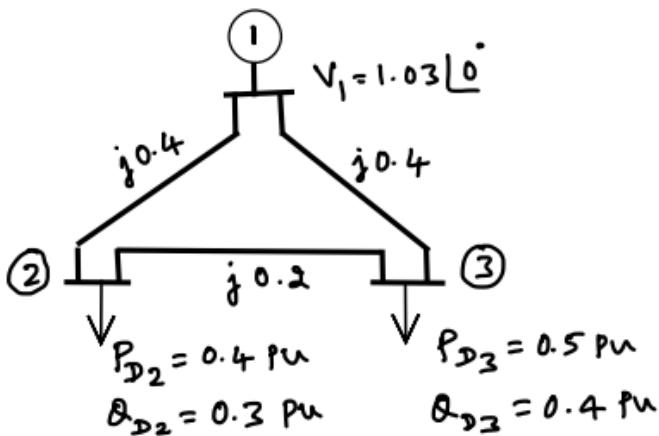

Fig. 3 (b)
b) For a 3 bus system shown in Fig. 3 (b), obtain voltages at the end of first iteration using G.S method. Also find power at bus 1. Line charging shunt admittances are $y_{12(sh)} = j 0.2 \text{ pu}$, $y_{13(sh)} = j 0.2 \text{ pu}$, and $y_{23(sh)} = j 0.1 \text{ pu}$. Consider acceleration factor as 1.1. Line values in the diagram are in impedance form. Consider bus 1 as slack bus.